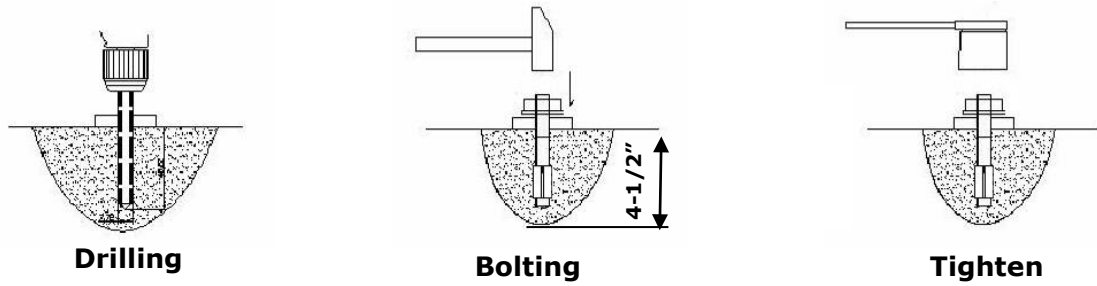

**Fig. 14**
1. Prepare the anchor bolts (See Fig.14)